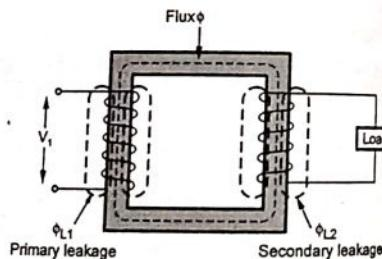

Fig. 5.10.1 Leakage fluxes
- Thus there are two leakage fluxes present as shown in the Fig. 5.10.1.